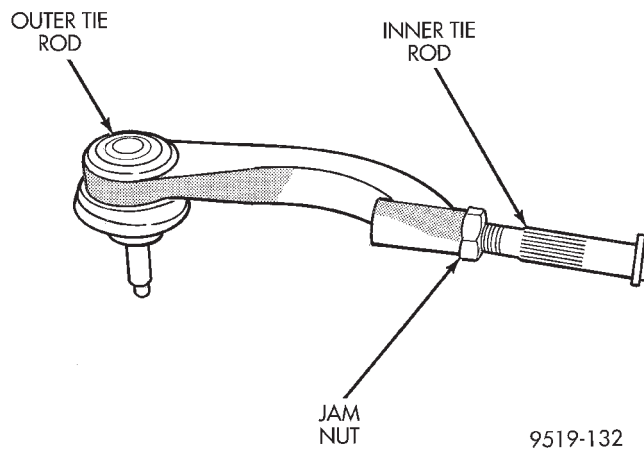

Fig. 27 Inner To Outer Tie Rod Jam Nut
(4) Securely mount the steering gear in a vise or other appropriate holding fixture.
(5) Loosen the inner to outer tie rod jam nut (Fig. 27). Remove the outer tie rod from inner tie rod.
(6) Remove jam nut (Fig. 27) from inner tie rod.
(4) Install inner to outer tie rod jam nut on inner tie rod (Fig. 27).
(5) Install outer tie rod on inner tie rod. Do not tighten jam nut.
(6) Install steering gear assembly back in the vehicle. Refer to Power Steering Gear in the Removal And Installation Section in this group of the service manual for the required procedure.